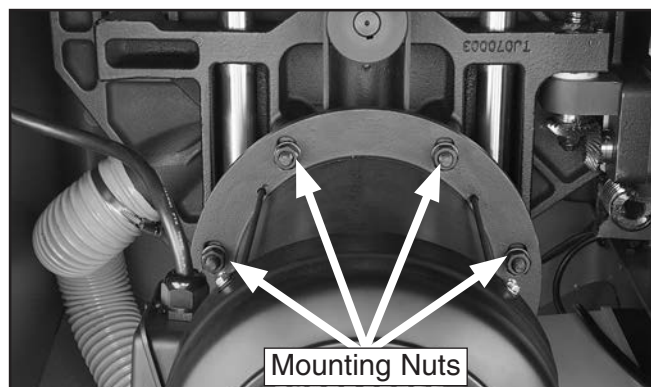
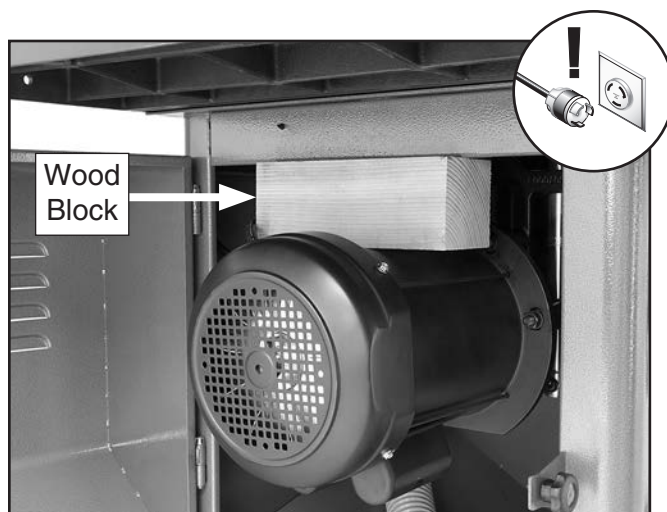

Figure 147. Motor mounting nuts.
Figure 148. Example of using wood block to tension belt.
3. Loosen the four motor mounting hex nuts shown in **Figure 147** two turns, then place the 4x4 wood block on top of the motor, as shown in **Figure 148**.
3. Loosen the four motor mounting hex nuts (**Figure 147**) two turns, and place the 2x6 block between the cabinet and bottom of the motor, as shown in **Figure 150**.